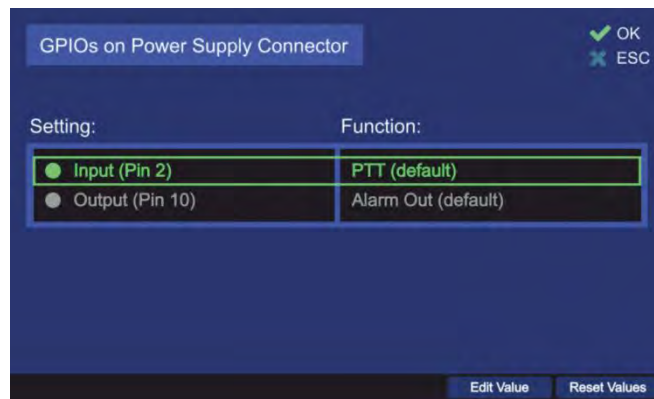

Figure 123. Dialog for setting the GPIOs
- o In order to define, which signals are to be allocated to the IOs, select the setting “GPIOs (Power S. Connector)” (s. Figure 108) and press “OK” or the hotkey “Edit Value”. The following dialog appears (s. Figure 123. Dialog for setting the GPIOs).